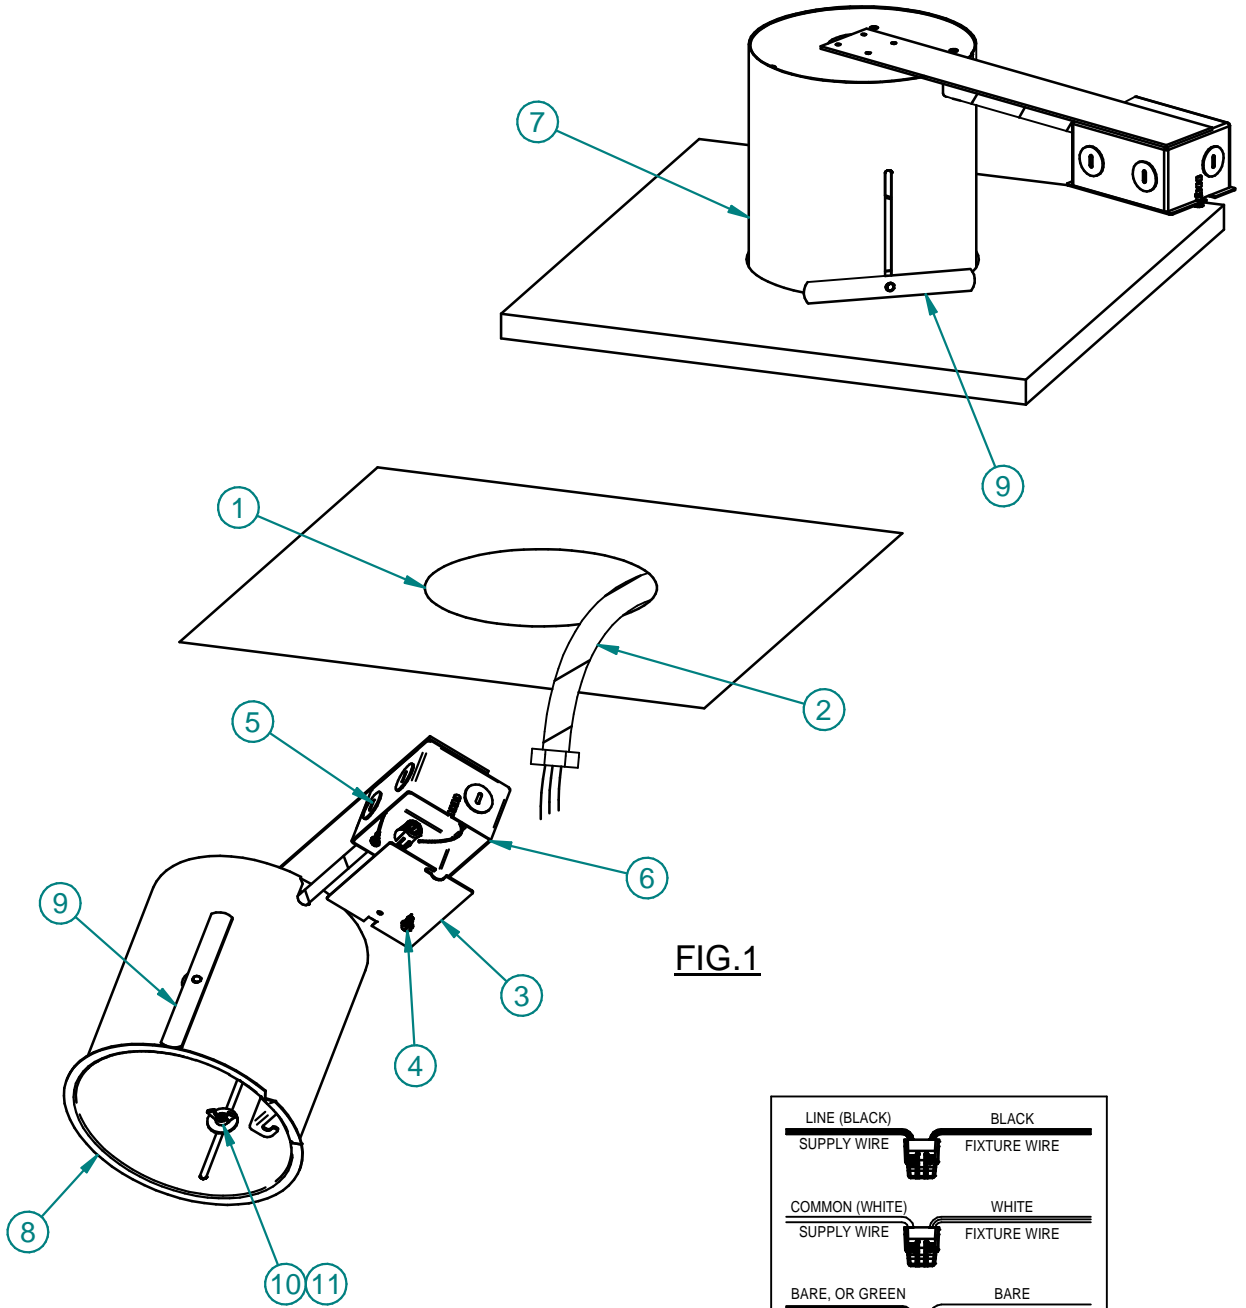

FIG. 1
1. Cut a 6 5/8" diameter hole (1) in ceiling and pull electrical supply cable (2) down thru opening.(Fig. 1).